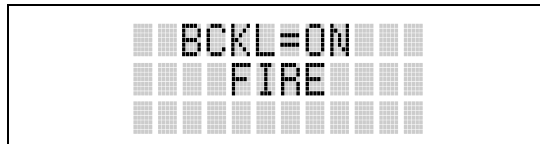

Figure 10-8: Backlight Menu Display
3. Press . The backlight menu item is activated. Line one shows the active menu item and its current parameter setting. Line two shows the currently selected system or group name (see Figure 10-8).